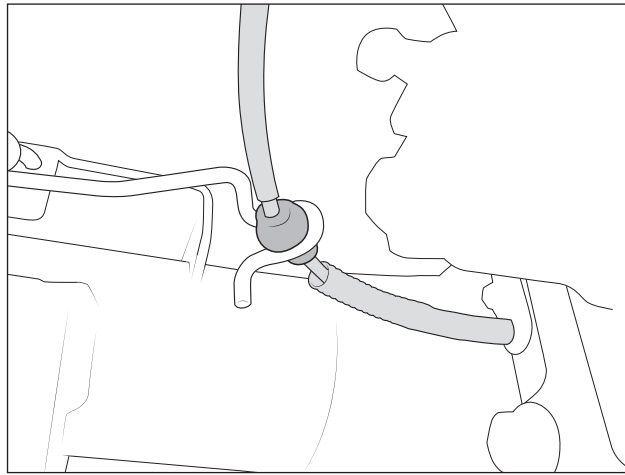

Figure 3
5. Unclip the ABS sensor from bracket at the axle to allow movement (fig. 3).